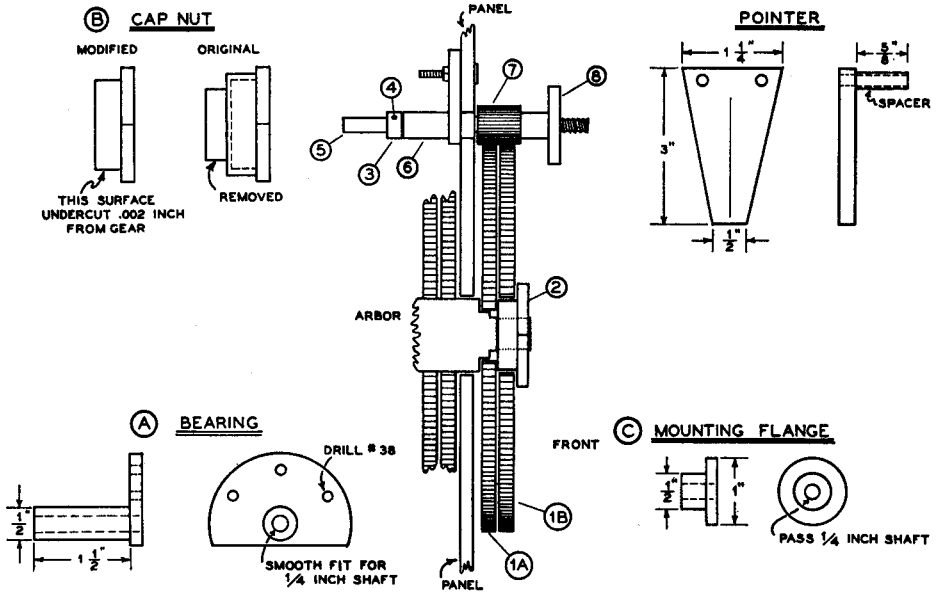

Fig. 3. Additional parts and mounting arrangement for installing a directly calibrated bandspread dial on the BC-459A.
5) Drill out the 3/8" hole in step 4. Take the bearing shown as Part A, Fig. 3, and position it at the back of the front panel in line with the 3/8" hole and with the cutoff flange section at the bottom. Scribe the three holes necessary to mount it to the panel. Drill out with a No. 38 drill. Mount the bearing with binding head 3-48 screws.
7) Take the original cap nut used for securing the old frequency dial to the arbor and set it up in a lathe and undercut as shown in *Part B, Fig. 3*. Any local machine shop will do this for very little cost.
10) Take a 1/4" shaft about 2 3/4" long and thread one end for a distance of about 1/2". Use the most convenient thread for which you have nuts. This shaft should rotate smoothly in the bearing *Part A, Fig. 3*. It is retained on one end by a collar and pin, or set screw. Sometimes a shaft can be secured with the center pre-drilled and tapped. Such an arrangement is shown in *Fig. 7*. The small gear, part number 7 in *Fig. 7*, is the 26-tooth 48-pitch gear originally used for adjusting the link coupling, removed in *step 3*.
11) Make the small flange for spacing the bandspread dial. It is shown as *Part C, Fig. 3*. There are three possible means of attaching the bandspread dial to the shaft. Two are already described in *step 10*, a third is to drill three small holes in the flange of *Part C, Fig. 3*, and bolt the dial directly to the flange section.
12) Closely examine the cut-away assembly drawing in *Fig. 3*. Assemble the gears and shafts for the dial as shown. Note particularly, that gear *1A* is held tight against the dial arbor by the cap nut. Gear *1B* has been reamed sufficiently to float between the cap nut and gear *1A*. Don't forget to put the spring back between the gears *1A* and *1B* in the assembling process. The fiber washer under the original antenna coupling knob should be inserted on the shaft between the small gear, *Part 7*, and the new bearing, *Part A*. Mesh the two gears with sufficient tension to eliminate any back lash. Do not bottom the two gears as this would cause irregular dial motion.
sheets of plexiglas. The pointer is diagramed in *Fig. 3*, and is positioned as shown in *Fig. 4*.